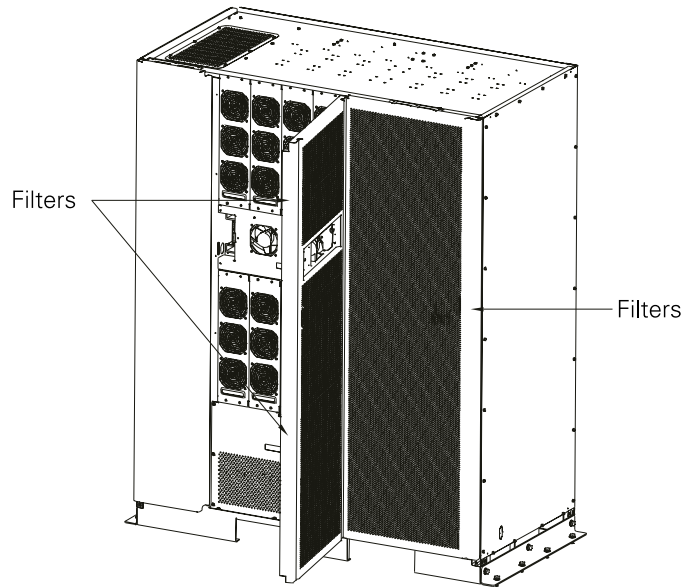

Figure 8-1: Air filter location
2. Check the UPS air filters (located behind the front door) and wash or replace as necessary. See *Figure 8-1: Air filter location* on page 69 for filter location. Contact an Eaton service representative for replacement filters. To remove the filters: